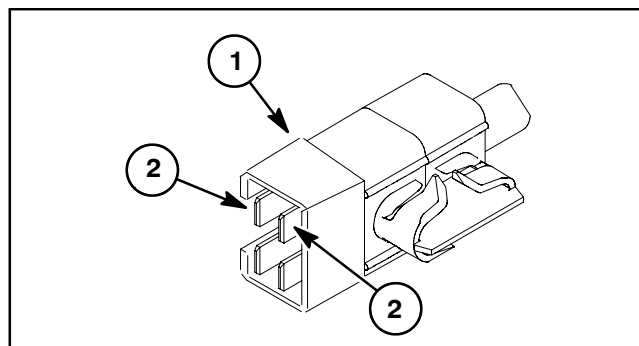

Figure 22
2. Remove four (4) screws and carefully slide shift bracket assembly from front of seat base to gain access to reverse switch.
4. With the use of a multimeter (ohms setting), check that the normally open switch contacts (Fig. 22) do not have continuity when the switch plunger is extended. The contacts should have continuity when the switch plunger is fully depressed.
5. When testing is complete, connect wire harness connector to switch. Slide shift bracket into seat base and secure with four (4) screws.